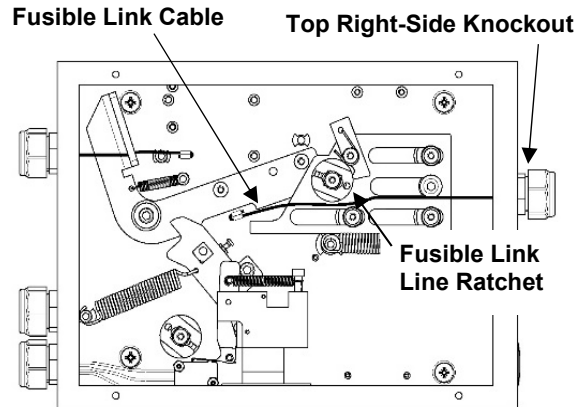

Figure 4-32.
1. Feed the Fusible Link Line cable through the top right-side knockout as shown. See **Figure 4-32**.